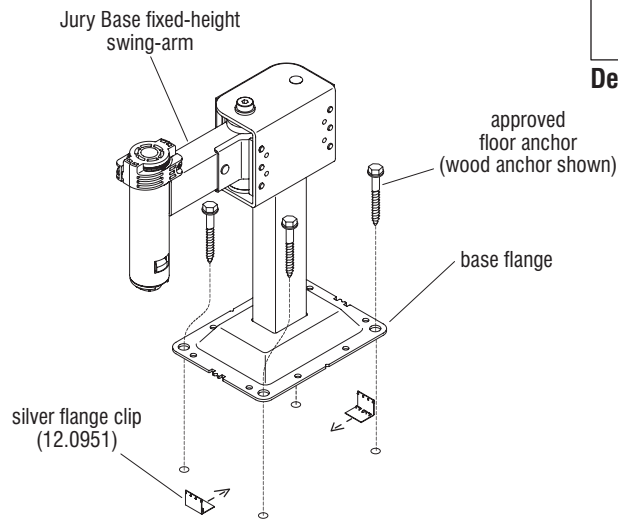

Figure 1 - Fixed-Height Swing-Arm Base
1. Determine if your installation includes "Fixed-Height Swing Arm Bases" (Figure 1) or "Adjustable-Height Swing Arm Bases" (Figure 2). Stage bases at the appropriate location according to the space-planning layout.
3. Bore anchor holes to required hole depth for floor-type specific floor anchors. See pages 2 through 5 for anchor information. Locate base over pre-drilled holes and drive in (do not tighten) mounting anchors. **Shim under base flange with steel washer(s) as needed to level or compensate for floor variances.** Center the silver flange clips under both 6" sides of the base flanges, making sure that the barbs end is up and insert the locating tabs of the flange so they are tight into the base flange notches, as illustrated (Figures 1 & 2, Detail A).
4. After all bases are positioned and adjusted with shims as needed, securely tighten base flanges to the floor (Figures 1 & 2).